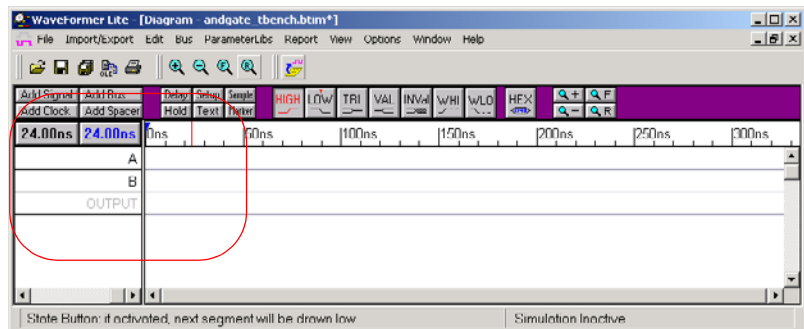

Figure 2-8. WaveFormer Lite Timing Diagram Window
1. Right-click the andgate.vhd file in the **Design Hierarchy** tab and select **Create Stimulus**. WaveFormer Lite launches with the port signals in the Diagram window, as shown in Figure 2-8.